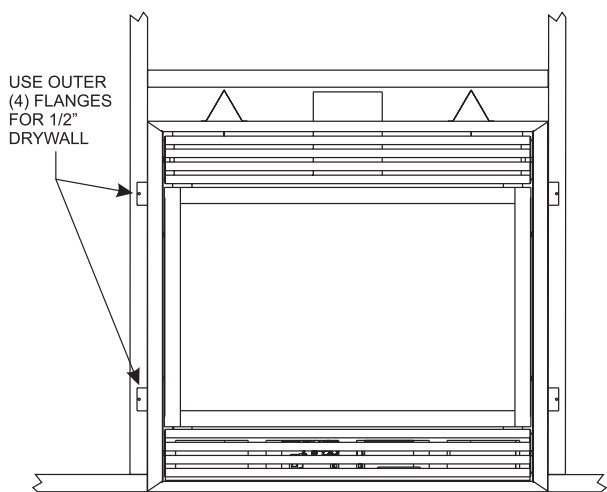

Figure 10A
3. Attach fireplace to frame using nailing flange. Preset depth to suit facing material (adjustable to 1/2", 5/8" or 3/4" depths). **NOTICE:** Fireplace must mount flush to facing material. If facing material requires more depth than 3/4", mark and drill two 1/8" holes into fireplace side at appropriate depth. Bend standoff tabs as needed to move fireplace flush with facing material. **See Figure 10A.**
**Attention:** When fireplace is installed in optional full cabinet mantel or corner mantel the four nailing flanges shown in **Figure 10A** will not be installed on the side of outer casing. The fireplace will be attached to the full cabinet mantel or corner mantel with the two nailing flanges located on the top of the outer casing assembly.